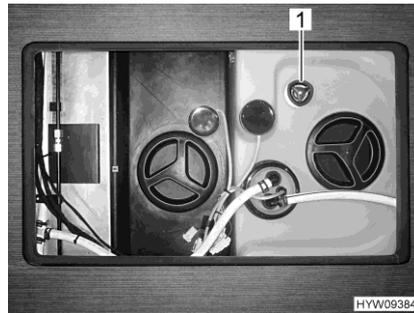

Fig. 203 Rotary handle (water tank)
- Turn the rotary handle (Fig. 203,1) on the water tank in a clockwise direction as far as it will go.
- Turn the rotary handle (Fig. 203,1) on the water tank in an anticlockwise direction up to the first catch. Excess water will drain away leaving approx. 20 litres in the tank.
- Turn the rotary handle (Fig. 203,1) on the water tank in an anticlockwise direction as far as possible beyond the resistance to fully open the drainage opening.